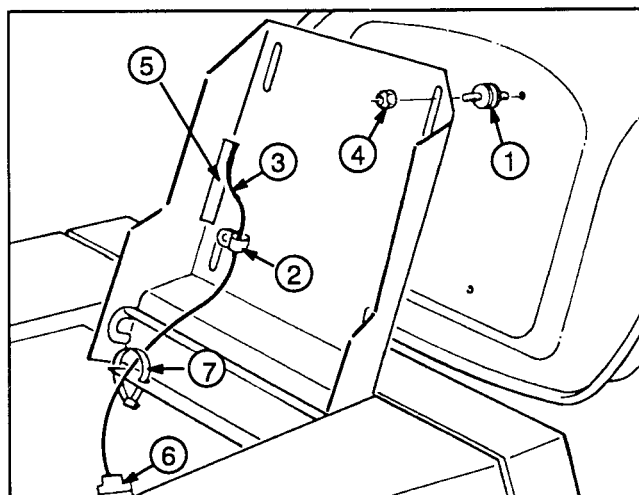

Figure 3
1. Thread (4) seat spacers into the bottom of the seat (Fig. 3).
2. Position the seat onto the seat base, inserting the seat switch cable through the slot and the spacer studs through the mounting holes (Fig. 3).
3. Slide the wire clamp over the seat switch wire (Fig. 3).
4. Using the left front spacer stud, loosely secure the wire clamp and seat to the seat base with a locknut (Fig. 3).
5. Mount the seat to the seat base with the (3) remaining locknuts.